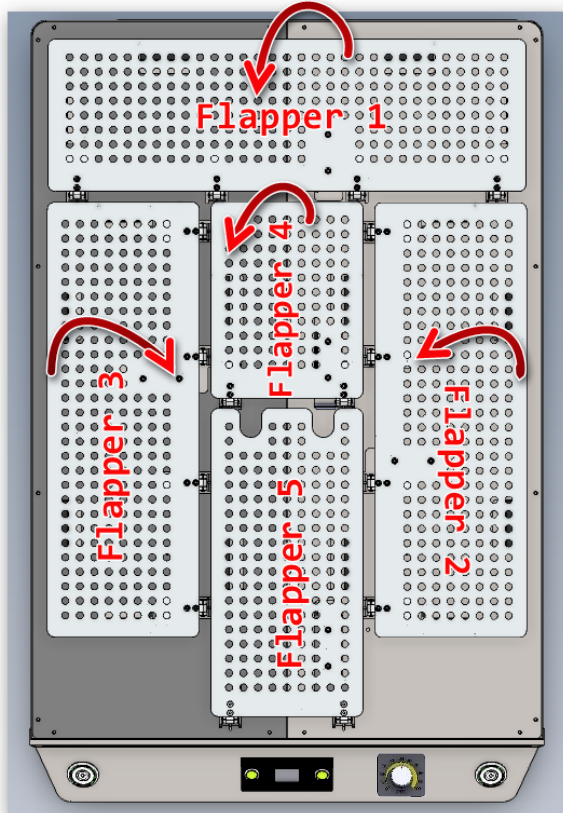

FIGURE 4-1 PPS T-FOLD FLAPPERS MOVING DIRECTIONS
2. The moving direction of flappers 1-4 are shown on the fig. 4-1.